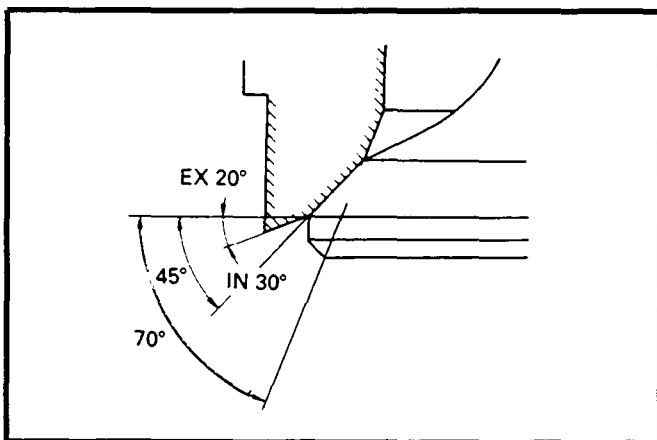

Figure 38.
6. The valve seat re-face operation should be performed as follows: See Figure 38.